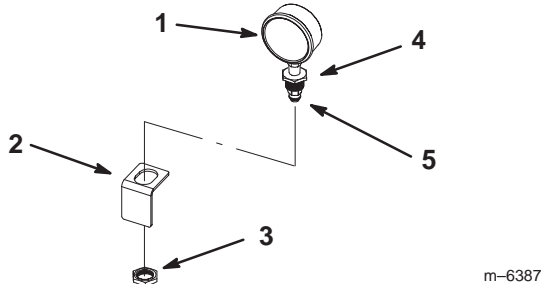

Figure 19
1. Wrap Teflon tape counterclockwise around the threads of the gauge and install the reducer fitting onto the gauge (Fig. 19).
2. Install the black plastic fitting into the reducer fitting on the gauge (Fig. 19).
3. Install the pressure gauge into the bracket under the circular opening inside the control box cover, securing it with the nut packaged with it (Fig. 19).